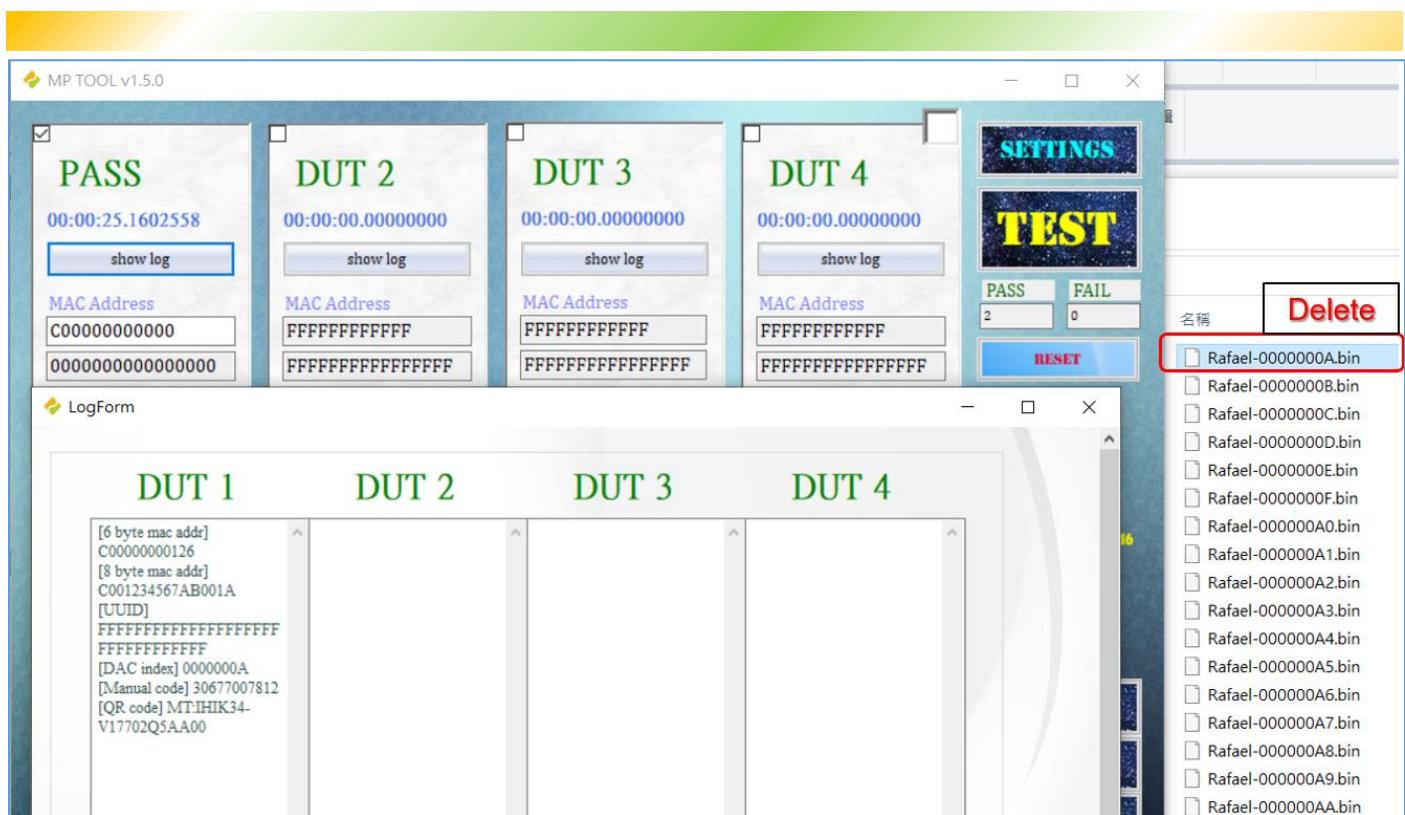

Figure 30. Enter index for Certificates
5. If all test items are pass, tool will delete certificates bin file as shown in Figure 30.